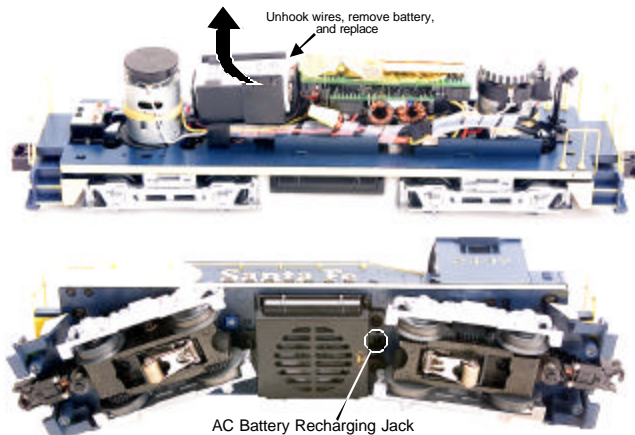

Figure 6. Replacing the Battery. Location of the Battery Re-charging Jack.
- Use M.T.H.'s recharger (sold separately) that plugs into a wall outlet and a special port under the engine (see figure 6 on pg. 13) to recharge the battery overnight.
- Or you can remove the battery (see figure 6 on pg. 13) and charge it in any standard slow charge battery recharger, following the recharger's directions.
**Replace:** If the sounds are not improved at the end of the 15-minute test charge, it is time to replace the battery (see figure 6 on pg. 13).